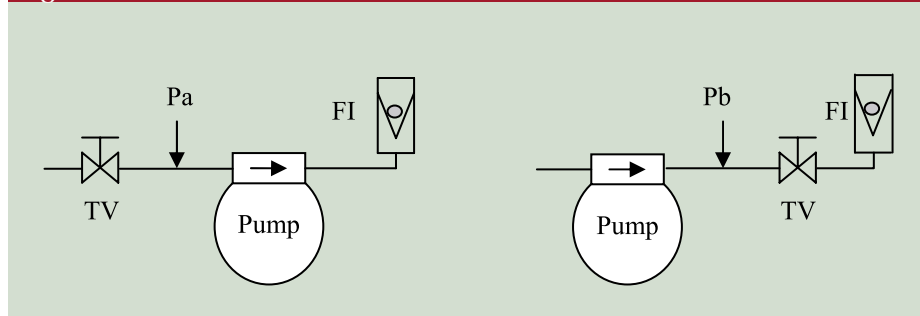

Figure 4: throttle valve location
- **Control Valve:** The simplest form of flow control is a manual throttle valve (TV) in series with the pump. This may be located before the pump - configuration A - or after the pump - configuration B (Figure 4). The flow rate in configuration A is